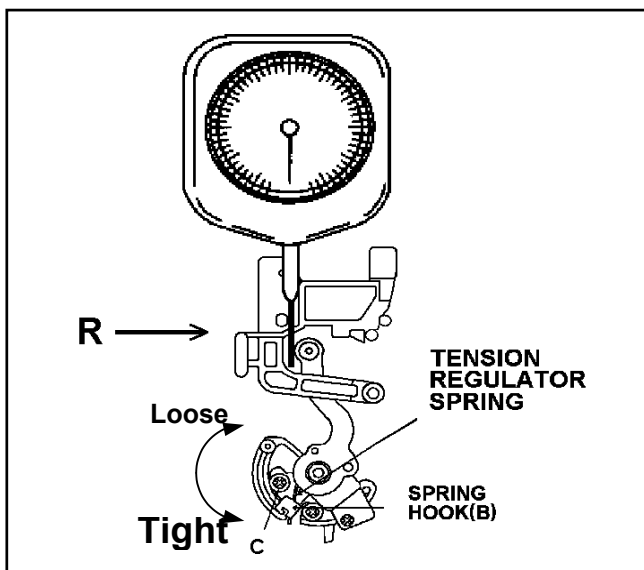

Figure 1-9
5. Push the tension post to the direction R by the tension gauge as shown in Figure 1-9 until the voltage at the test point becomes 3.8V (It means PLAY position).
6. Loosen the screw (C) and adjust the position of hook (B) so that the indication (tension) of gauge is within the specification.